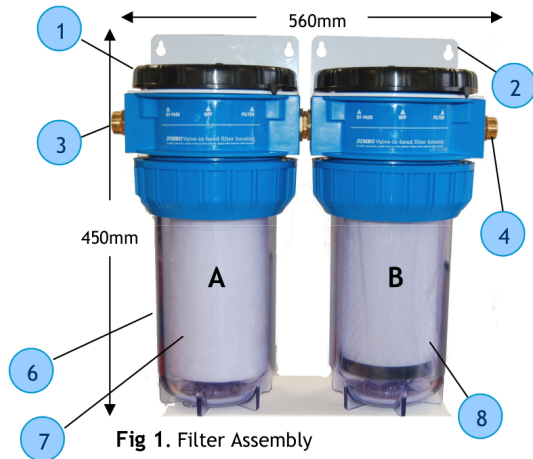

Fig 1. Filter Assembly
Note:- Fig 1. is an image of a Oasis System, other systems may vary.
- 1 x 10" DP Housing, Clear + Brackets Fig 1.A
- 1 x 10" Big blue Housing + Brackets Fig 1.B
- 2 x 10" Big blue Housing + Brackets Fig 1.B
Turn the Water on Turn both of the stopvalves to the 'ON' position to allow the water to flow through the filter system. Fig 1.